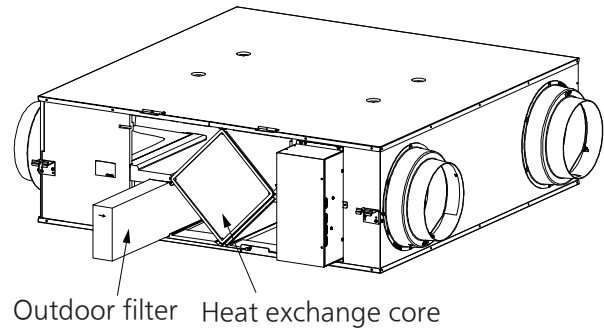

Figure 5
- ⑤ Please insert the cleaned or new outdoor filters into the energy recovery ventilator along the guide rail. (Figure 5)